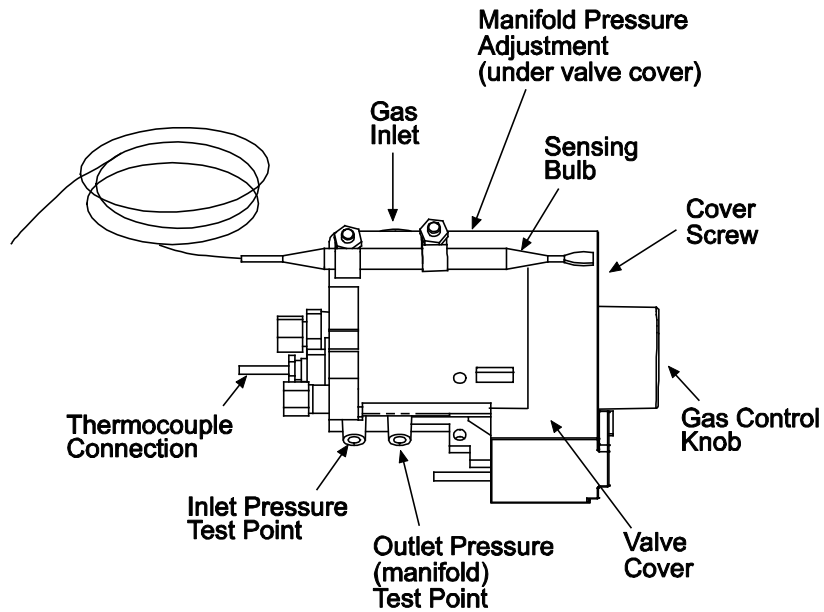

FIGURE 6a
1. INLET PRESSURE can be checked by turning the captured screw (see Figure 6a) counter clockwise 2 or 3 turns and then placing the tubing from the gauge over the test point.